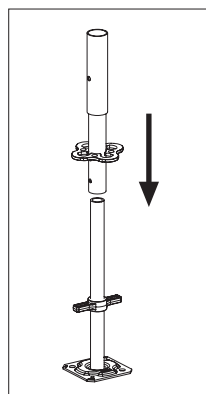
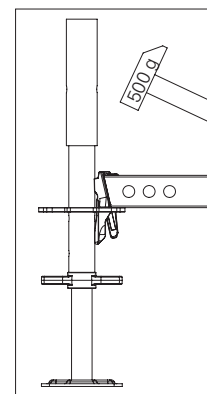

Fig. A3.04
Fig. A3.06
3. Secure wedges on all ledgers using a 500 g hammer. (Fig. A3.04 – Fig. A3.06)